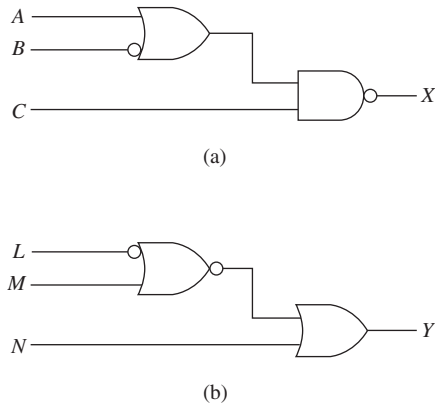

Figure P5–34
- C** **5–34.** Convert the circuits of Figure P5–34 to their equivalents *using only* NAND gates. Next, make the external connections to a 7400 quad NAND to implement the new circuit. (Each new equivalent circuit is limited to *four* NAND gates.)